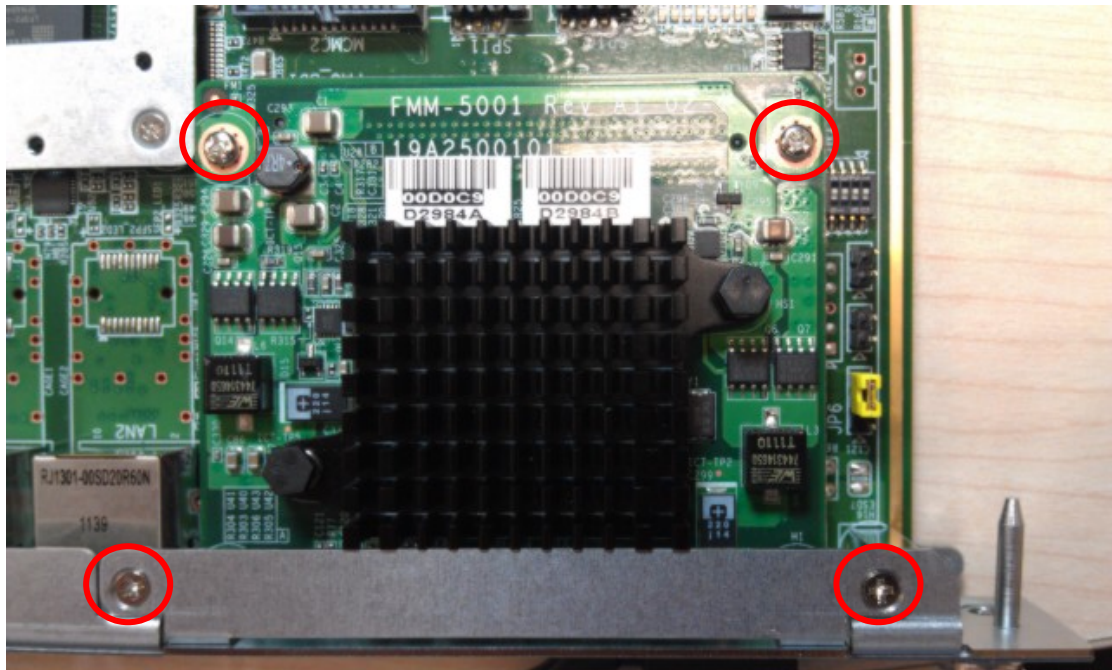

Figure 3.10 Install the screws
2. Install the screws (refer to figure 3.10), and power on the MIC-5332 to make sure the installation is completed.